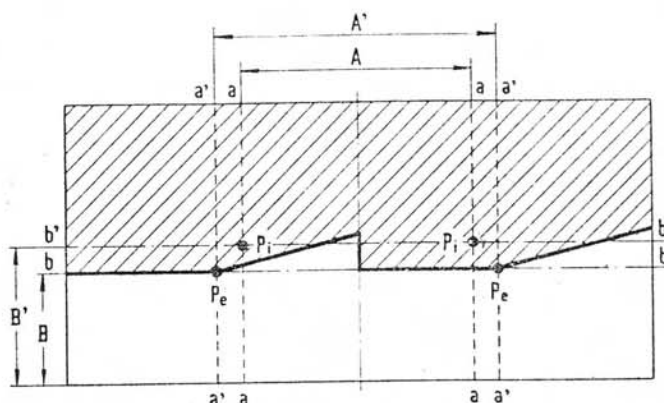

Fig. 132. - Headlamp aiming diagram.
Draw two pairs of vertical lines a-a and a'-a' on the screen (fig. 132). These lines should be equally spaced from the perpendicular to the car C/L and respectively 29" (73.8 cm) and 41.33" (105 cm apart (A and A'), corresponding to the center distance of inside and outside headlights.
the demarcation lines which slope upward at about 15° originate from the points of intersection **Pe** (or a little beyond them) of the vertical lines a'-a' and the horizontal line b-b (fig. 132).
To aim the high beam of inside headlights, turn on the country lights and operate the screw (4) for vertical adjustment and the screw (5) for the horizontal until the center of the zone of highest intensity (hot spot) falls on intersection **Pi** between the horizontal line b'-b' and the two verticals a-a (fig. 132).